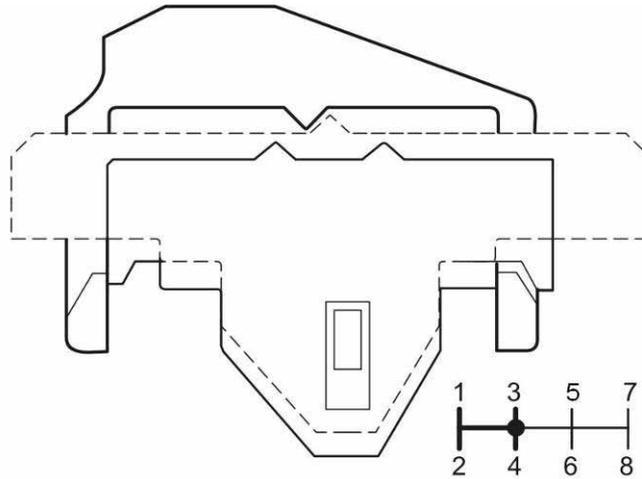

Figure 19 Neutral B
- b. **Neutral B.** The shift shaft is rotated when the gear shift lever is moved from neutral A to neutral B. The shift arm connected to the shift shaft causes the shift bush to move to the position shown in Figure 19. The lower detent plate moves away from the shift bush because of the interaction between the fixed detent and the lower detent plate. The interference between the shift bush and the lower detent plate at point Y prevents the selection of neutral C. At this stage only neutral A or B is available, i.e. first to fourth gear ratios only can be selected.